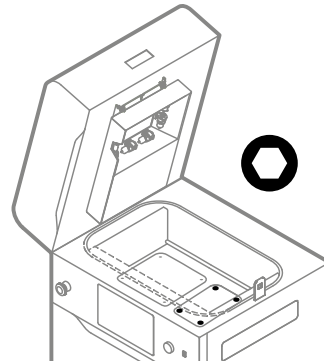

Fig. 12.29 Tighten the four screws securing the Print Bed cover.
24. Using a 2,5 mm allen key, tighten the four screws securing the Print Bed cover (fig. 12.29).